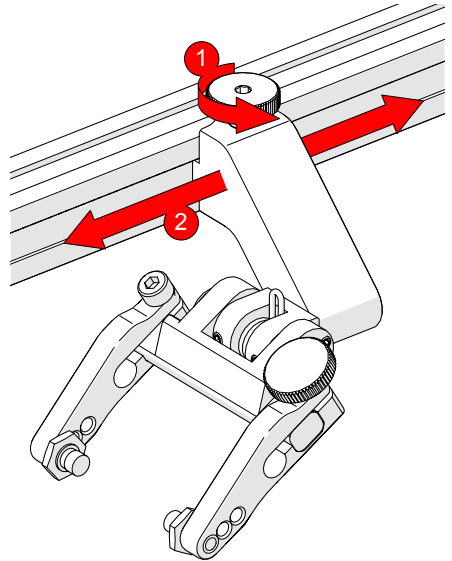

Fig. 31 - Position on frame bar
2. Use the probe holder adjustment knob to position the probe holder along the frame bar (Fig. 31).